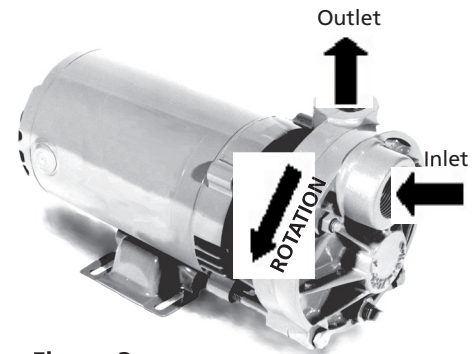

Figure 3
- Locate the pump close to and below the liquid level supply of fluid so that there will always be a positive supply of fluid at the inlet of the pump, (See Figure 3). If the pump is located above the liquid level, a positive sealing foot valve or check valve must be installed at the end of the suction line or in the piping just before the pump. Suction lifts over 10 ft. are not recommended.
The standard direction of rotation for the pump is right handed, or clockwise, when looking at the motor end of the pump. A rotation arrow, refer to Figure 3, is located on the pump to indicate the correct direction of rotation.
The pump inlet is located on the end farthest from the motor, refer to Figure 3. The discharge or "outlet" can be on the top, side, or bottom depending on the model and construction of the pump. Normal discharge position is on top.